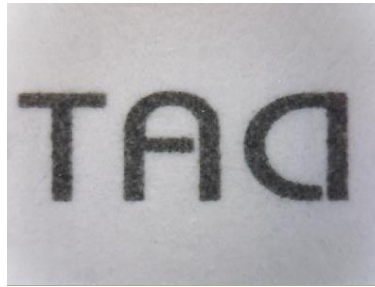

Fig.3-22 Video image do horizontal flip
- ⊕ Horizontal Flip “” : The video image left and right mirror 180 degree flip which is horizontal flip shown in Fig.3-22.